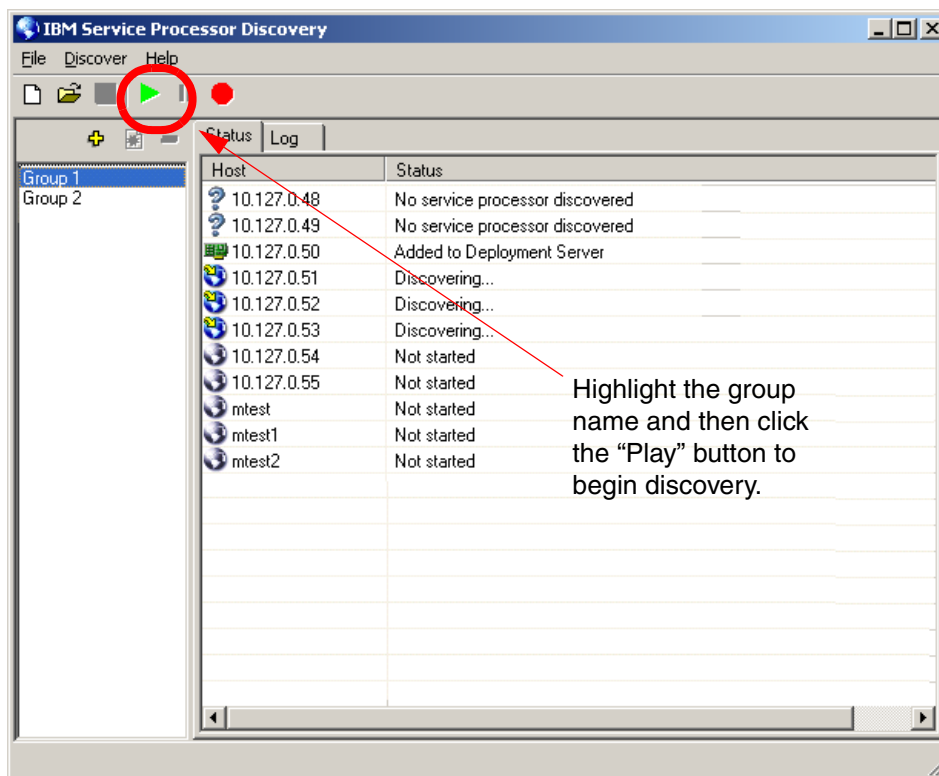

Figure 2-48 The IBM Service Processor Discovery utility discovering service processors
11. Start the discovery process by highlighting a group in the left pane and clicking the **Play** icon. You will see something similar to Figure 2-48 on page 74.